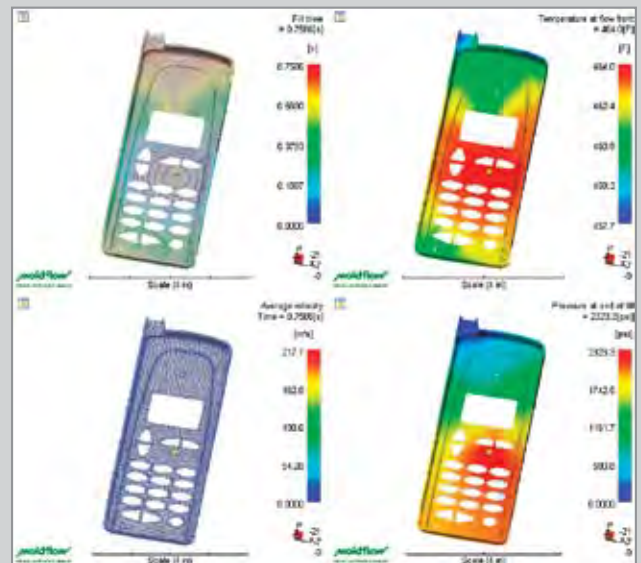

Figure 2: Example of a single captured image showing multiple results from one study in split views.
- 6 Select **Edit > Image Capture Option > All Views** to capture all four split views in the active study window (see Figure 2).